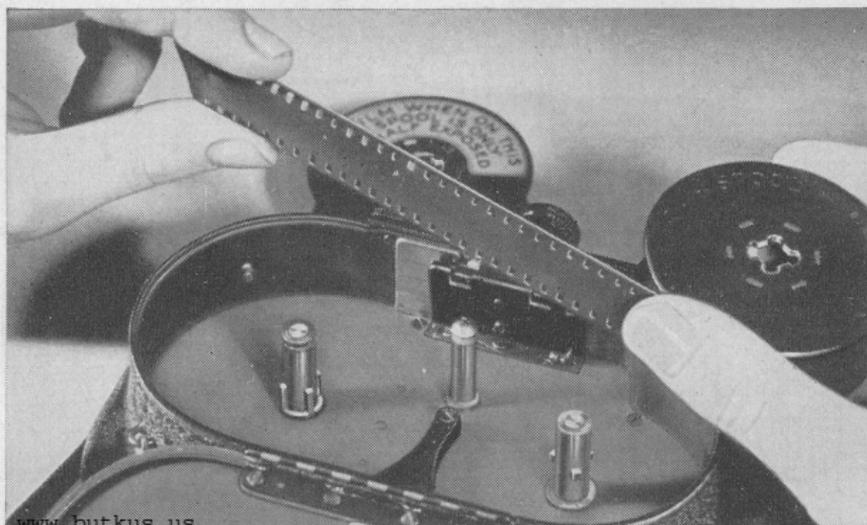

Figure 4
1. Lay the camera down with the lens pointing away from you and with the base of the camera to your left, as in Figure 4.